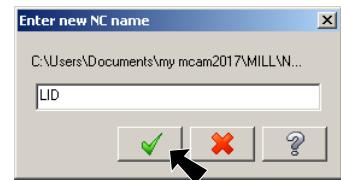

Fig. 51
- Step 2. Click OK  in the NC name dialog, Fig. 51.